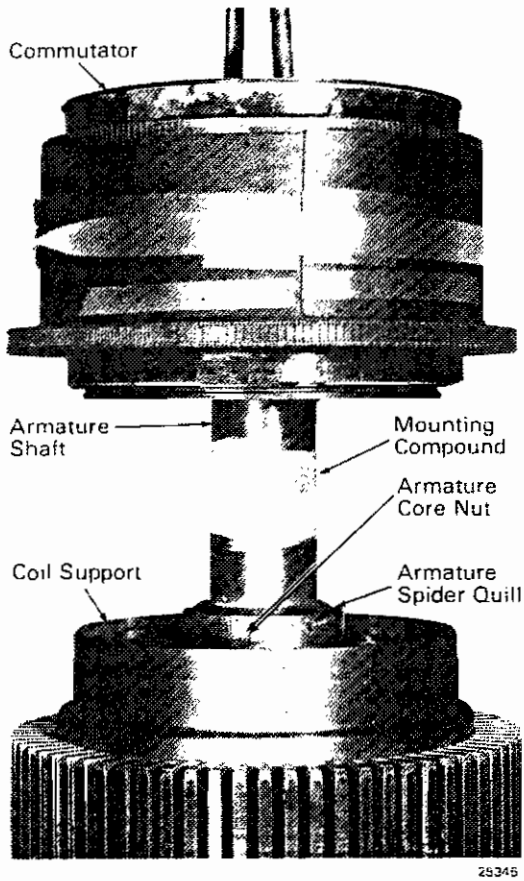

Fig. 19 - Application of Lubrication to Shaft
3. Place core and shaft assembly on shaft removal adapter. Refer to Service Data for shaft removal adapter part number. Apply small quantity of lubricant compound to the shaft surface where commutator mates with shaft, Fig. 19.